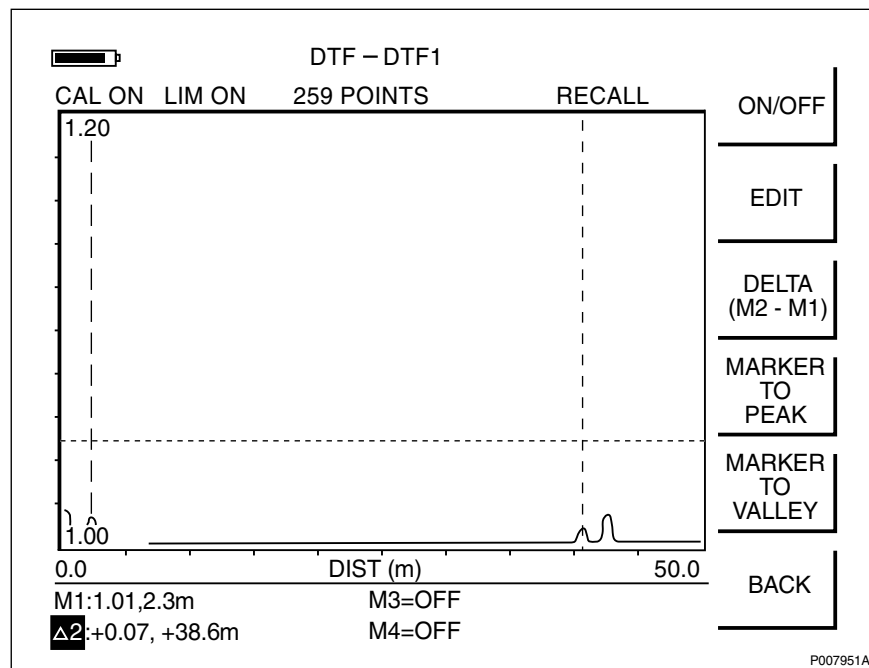

Figure 202 Example of an approved DTF measurement
3. Press the **EDIT** soft key and place the **M1** marker at the near end of the feeder using the **Up/Down** arrow key. See Figure 202 on page 181.
5. Press the **EDIT** soft key and place the **M2** marker at the far end of the feeder using the **Up/Down** arrow key. See Figure 202 on page 181.